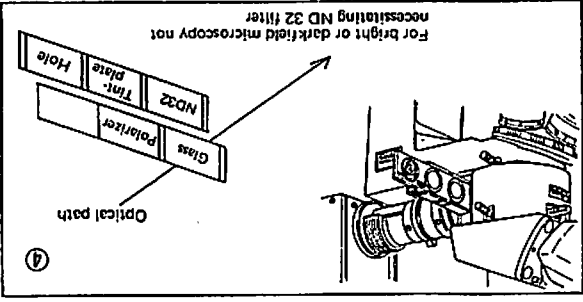

Fig. 9-4
④ If no use of ND 32 filter is necessary, pull slider rightward out, until it stops once with a click, thereby the tint-plate being removed from the optical path. (Fig. 9-4)